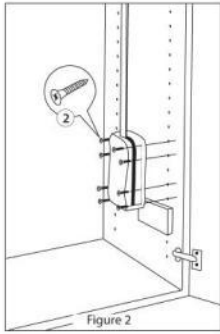

Figure 2
3. Using the wooden guide for height, place the right side mechanism into position and insert a minimum of 8 screws (2), for best results use 12 screws (2) See Figure 2.